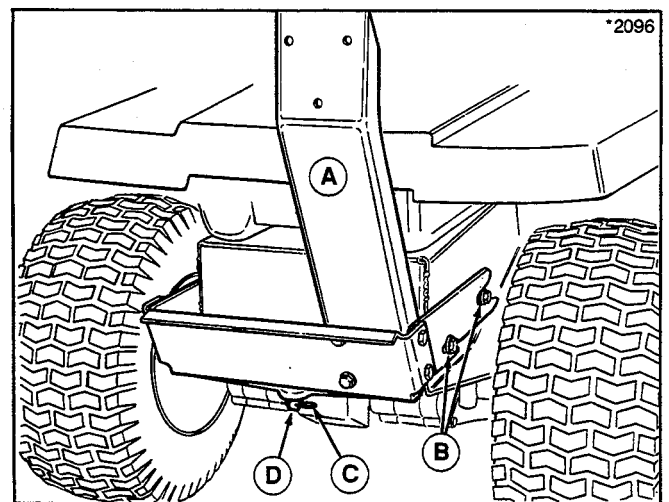

Figure 10.
14. Install bracket assembly (A, figure 10) onto frame spacers (B) as shown in figure 10. Install clevis pin (C) through back plate and drawbar and secure with spring clip (D). Tighten all bracket hardware after checking fitment on spacers.